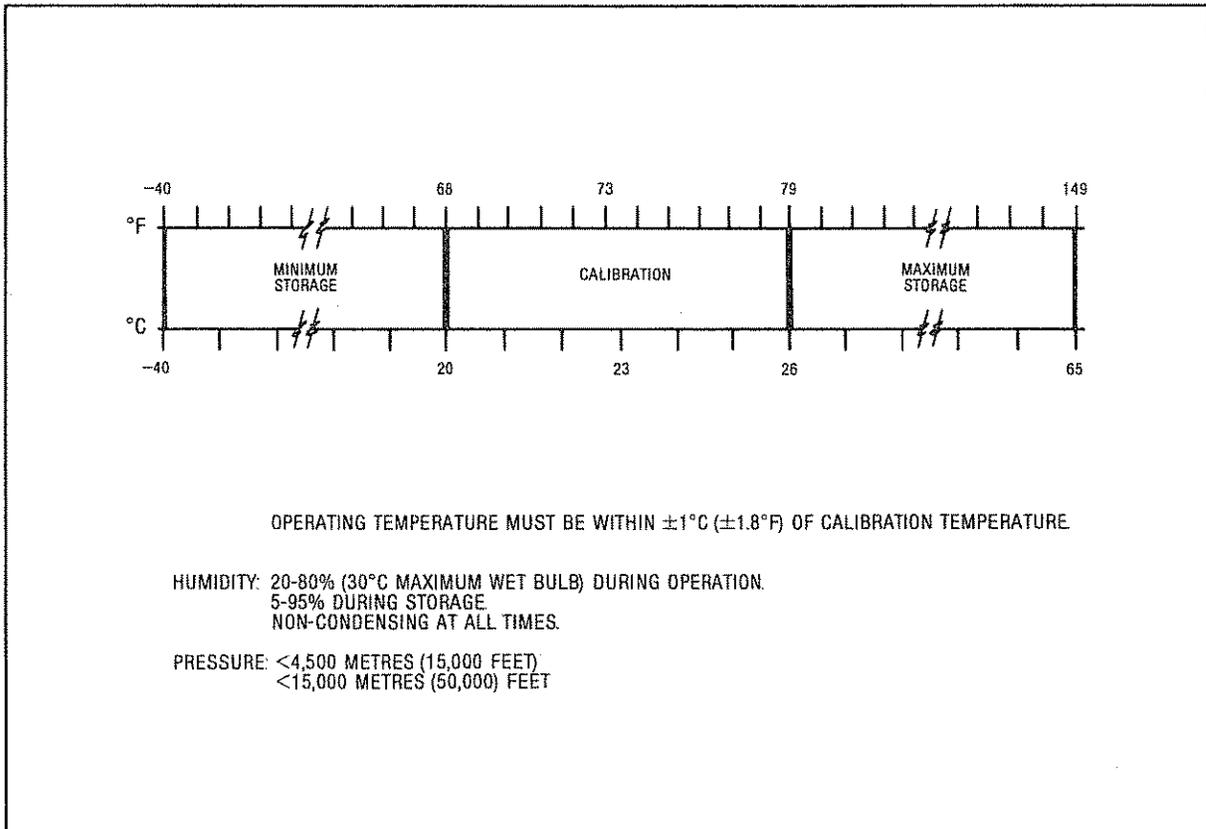

Figure 4. Allowable Temperature, Humidity, and Pressure
**TEMPERATURE** of the calibration devices is critical, because the dimensions of the devices (and hence their electrical characteristics) change with temperature. Figure 4 shows the allowable environmental conditions for using the HP 85050A calibration kit. Notice especially that the temperature during calibration must be between 20°C (68°F) and 26°C (79°F). Afterwards, the operating temperature must be within  $\pm 1^\circ\text{C}$  (1.8°F) of the calibration temperature for the network analyzer to meet all specifications. Thus, for example, if the calibration was done at 22°C (71.6°F) then the operating temperature must be 21-23°C (69.8-73.4°F).